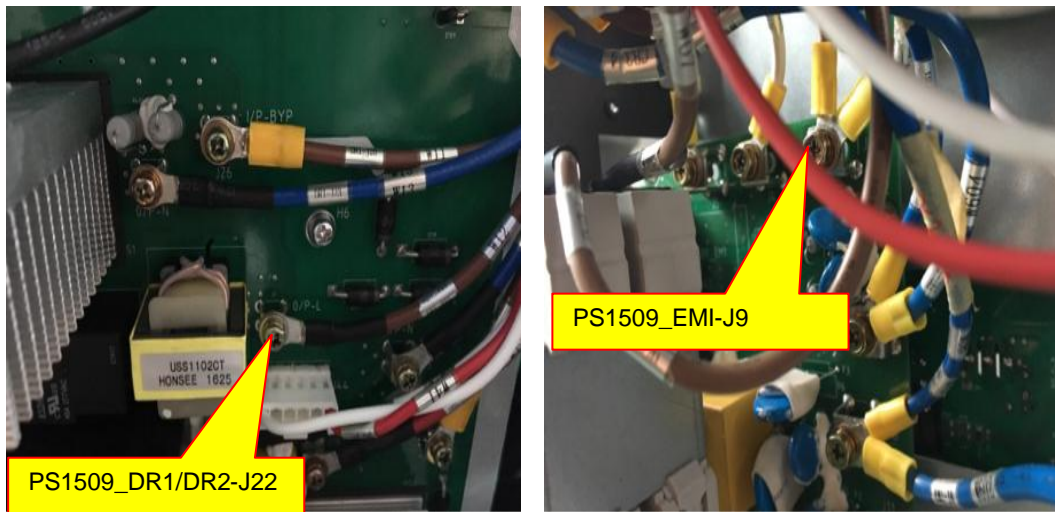

Figure 4 Cable connection
4. Remove the cable W12 from J22 of DR1/DR2 power board and J9 of EMI board; connect cable W501 to J22 of DR1/DR2 power board; connect W502 to J9 of EMI board, as is shown in figure 4.